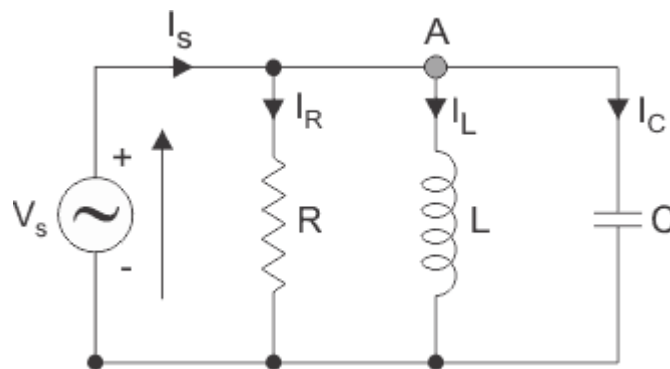

Figure 7.1: Parallel RLC Circuit
1. Simulate the circuit as shown in Figure 7.1 on PSPICE¹. Keep $V_{in} = 3$ (VSIN) at 8kHz, $R = 1\text{ k}\Omega$, $L = 10\text{mH}$ and $C = 10\text{nF}$. Perform time domain transient analysis and fill Table 7.1. Measure I_C and its Δt w.r.t V_C and I_L and its Δt w.r.t V_L
The difference this time however, is that a parallel resonance circuit is influenced by the currents flowing through each parallel branch within the parallel LC tank circuit. A tank circuit is a parallel combination of L and C that is used in filter networks to either select or reject AC frequencies. Consider the parallel RLC circuit in Figure 7.1.